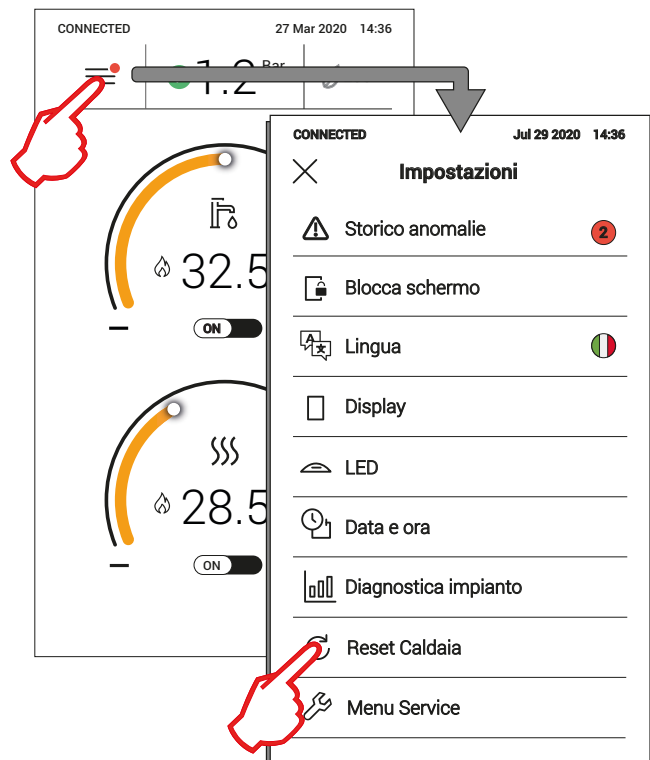

fig. 34
- 2 - Touching the main menu icon and then [Boiler Reset] when a screen similar to that shown in fig. 34 (main menu icon with red dot) appears.